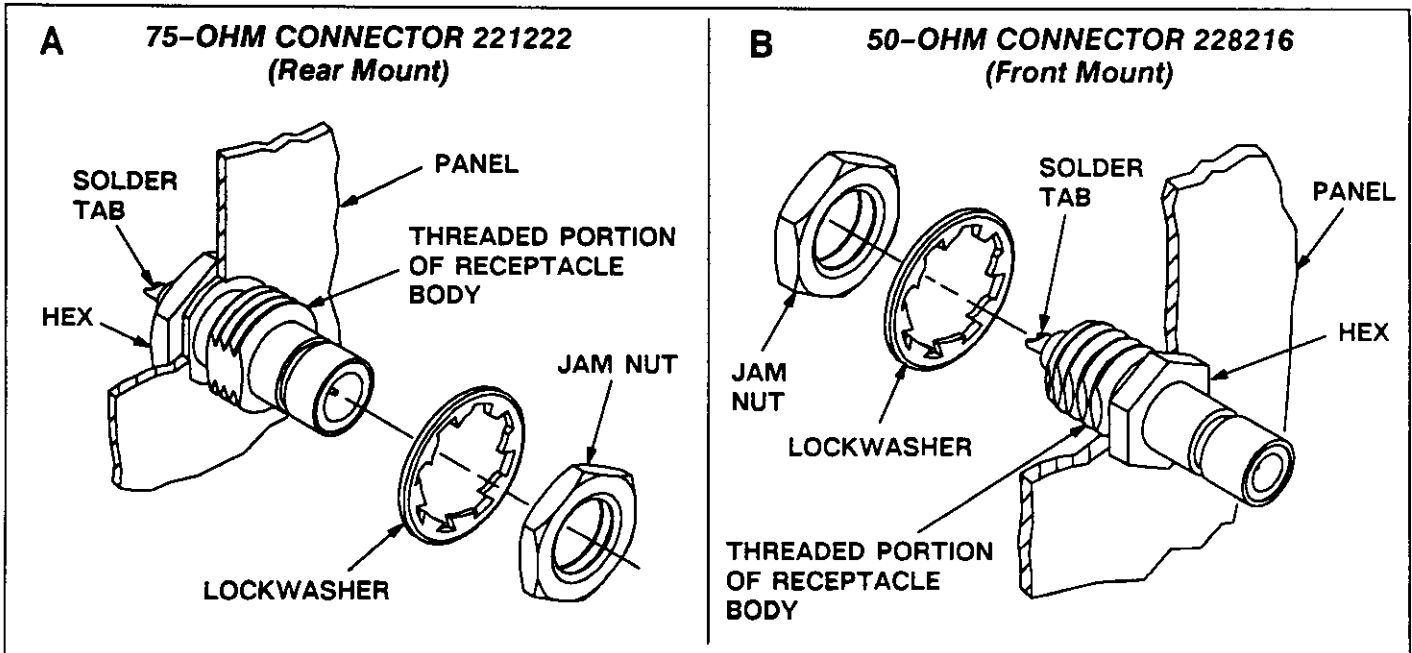

Fig. 3
2. Insert threaded portion of receptacle connector through panel cutout, as shown in Figure 3, A and B.